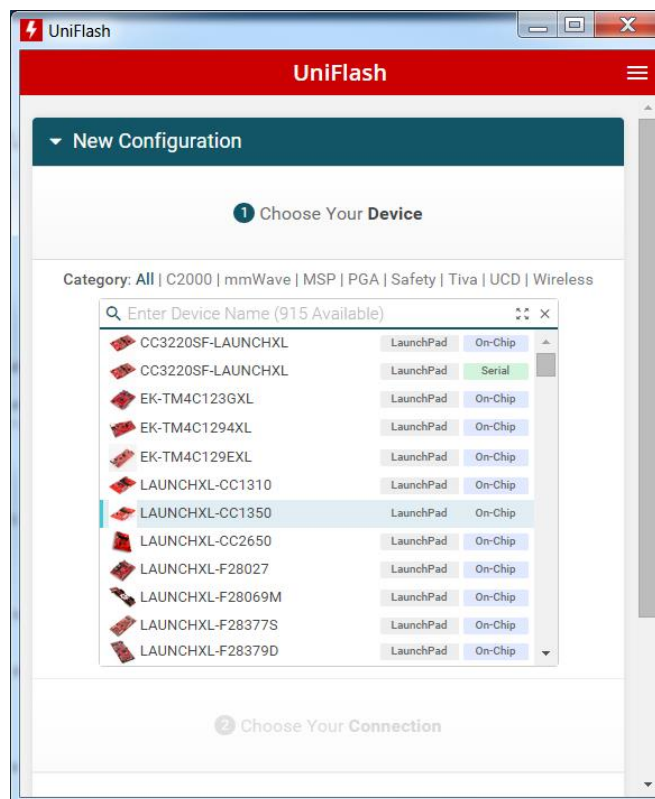

图 4. Choose Device: UniFlash
4. Select LAUNCHXL-CC1350 as show in 图 4, and click on the *Start* button.